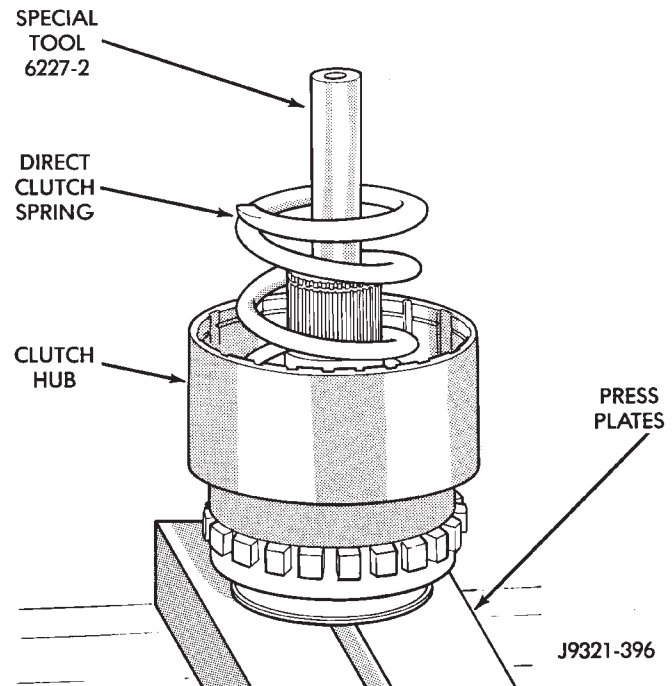

Fig. 231 Direct Clutch Spring Installation
(17) Install direct clutch spring (Fig. 231). Be sure spring is properly seated on spring plate.